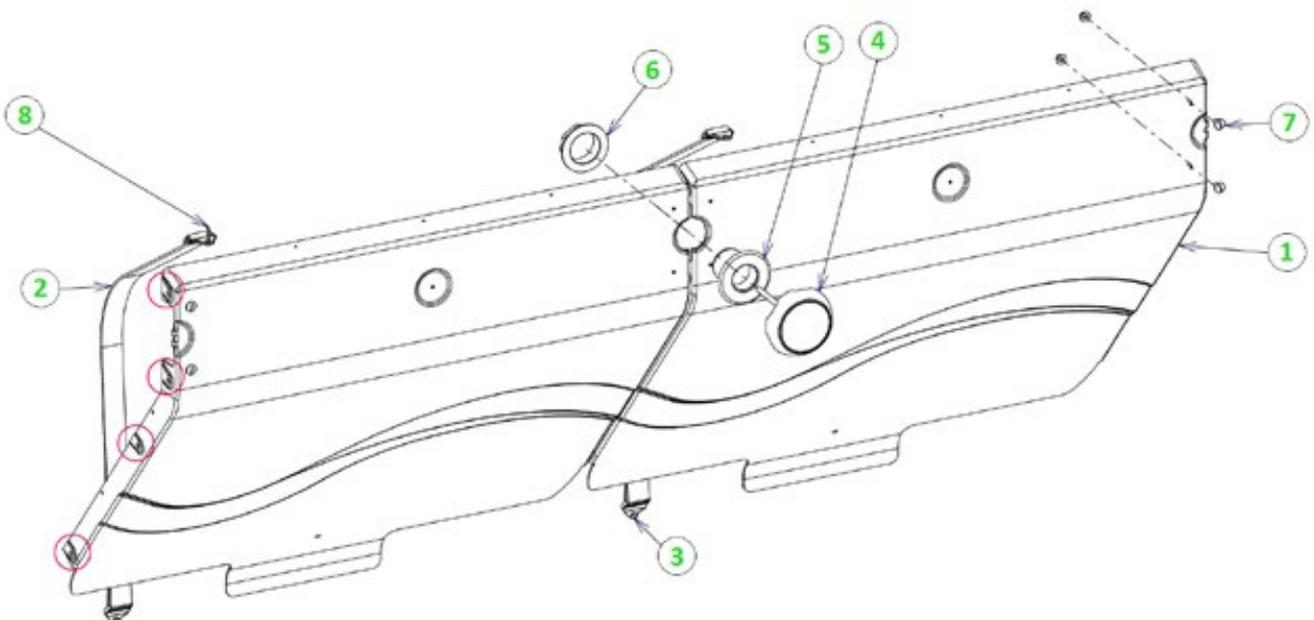

Figure 43 – Installing the pit wall and underwater light
The pit wall and underwater light assembly steps are illustrated in *Figure 43*. The screws required for assembly are enclosed in bag Y.
Assemble the two pit wall modules (1) using four hex head 8 × 20 A4 SS screws, and four 8 mm diameter nuts, insert a 8 mm diameter washer on either side of the wall, that is a total of 8 washers. The positions of the screws are circled in red in *Figure 43*